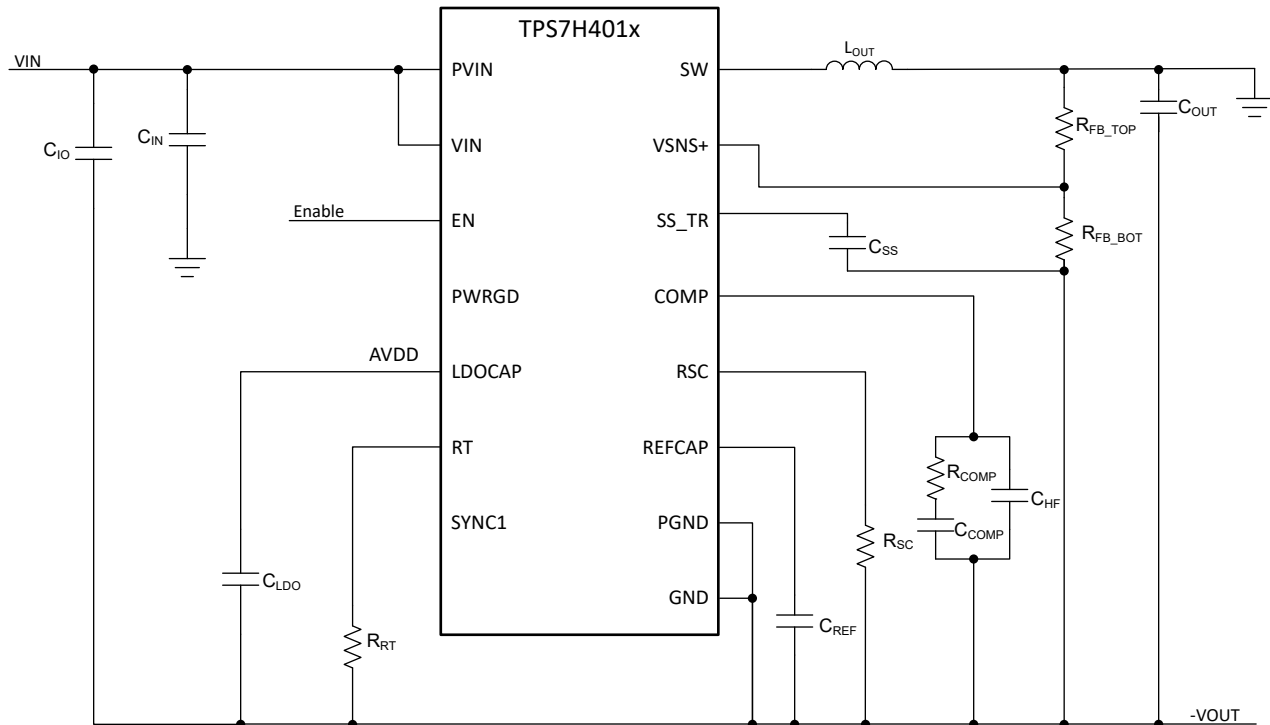

Figure 10-4. Simplified Schematic of Inverting Buck-Boost
The TPS7H401x can be configured as an inverting buck-boost to create a negative output voltage as shown in Figure 10-4.
- C_{IO} in the Figure 10-4 is the standard input capacitor that is utilized in a buck converter. C_{IN} is an input capacitor with respect to system ground which provides a low impedance path at the regulator input.